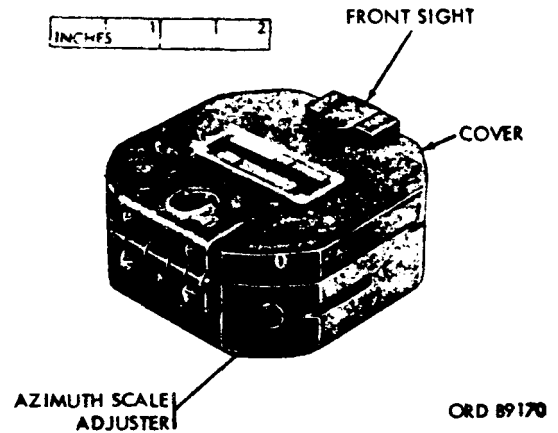

Figure 3. Compass M2.
b. *Orientation.* Allowance for declination constant can be made in the compass by shifting the azimuth scale, using the azimuth scale adjuster (fig. 3). The slotted head of the adjuster can be turned with a suitable screwdriver.